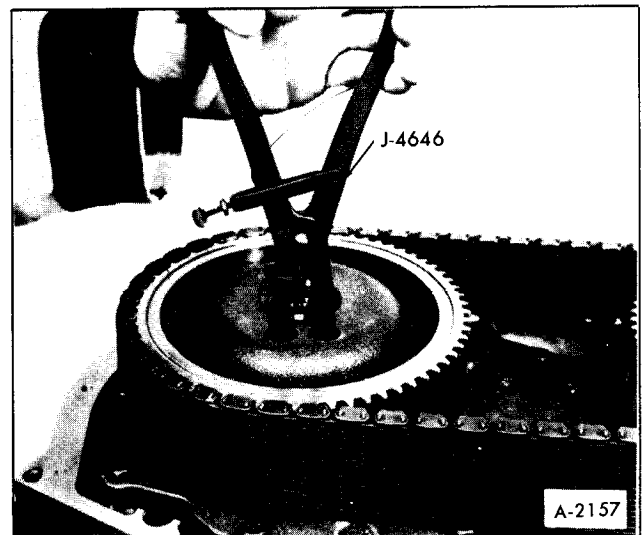

Figure 40—Removing Sprocket to Housing Snap Rings
3. Install Snap Ring Pliers, J-4646, into sprocket bearing retaining snap rings located under the drive and driven sprockets, and remove snap rings from retaining grooves on support housing, Figure 40.